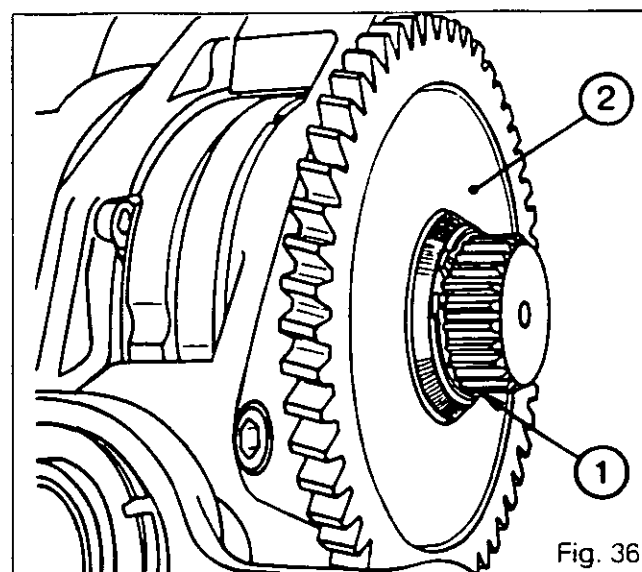

Fig. 36
111. Refit the gear (2) (if mounted) and the circlip (1) (Fig. 36).
113. Refit the gear (2) (if mounted) and the circlip (1) (Fig. 36).